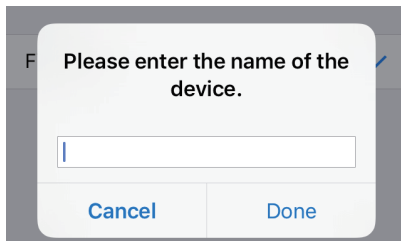

Fig. 4 Enter a name for the
5. Enter a name for the fireplace (Fig. 4)